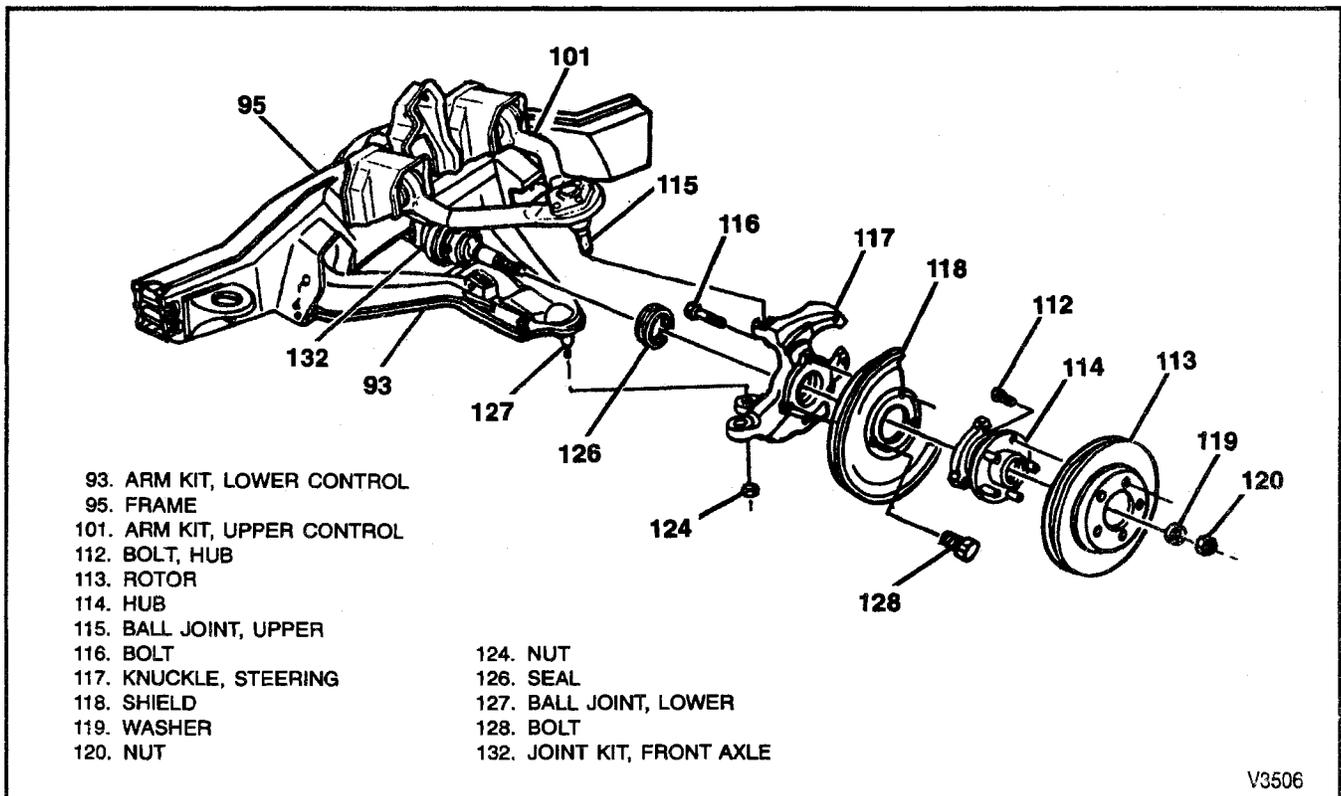

Figure 30—Hub, Knuckle, and Control Arm Components
←→ Remove or Disconnect (Figure 30)
→→ Install or Connect (Figure 30)
←→ Remove or Disconnect (Figure 30 through 34)
3. Nut (120) (Figure 30).
**Remove or Disconnect (Figure 30)**
4. Drive axle (halfshaft) nut (120).
5. Washer (119).
6. Tie rod nut (124).
10. Splash shield bolts (128).
11. Splash shield (118).
13. Upper ball joint (115) from the knuckle (117). Using J 36607. Refer to "Ball Joint Replacement" in this section.
15. Lower ball joint (127) from the knuckle (117). Using J 36607. Refer to "Ball Joint Replacement" in this section.
16. Knuckle (117).
**Install or Connect (Figure 30)**